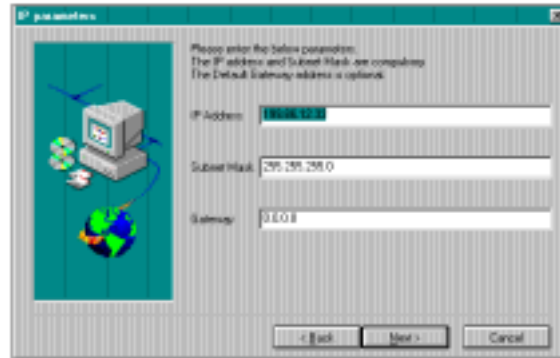

Figure 8-1. IP Parameters
- Specify the system's IP address and its subnet mask. The gateway selection is optional (Figure 8-1).